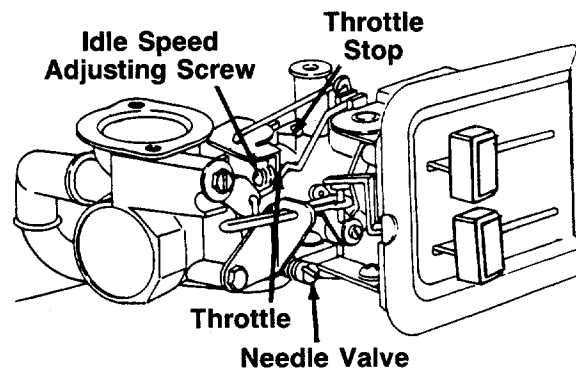

FIGURE 19.
- Close needle valve (see figure 19) clockwise (↻) finger tight only. Forcing may cause damage. Then open 1½ turns counterclockwise (↺).